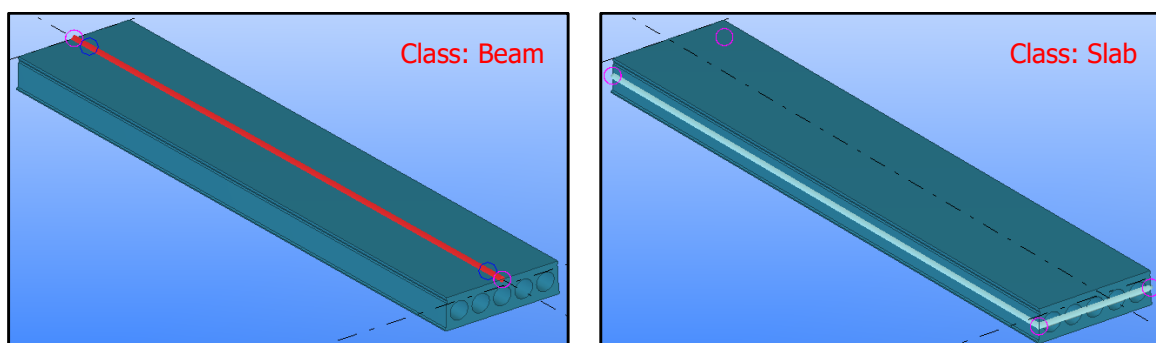

Figure 2-13
- Change an analysis member class to another one, e.g. change a hollow core member class from 'Beam' to 'Slab'. This way Tekla Structures will handle the hollow core as a slab member (Figure 2-13), and it will be exported as a plate object to a FEM-Design.